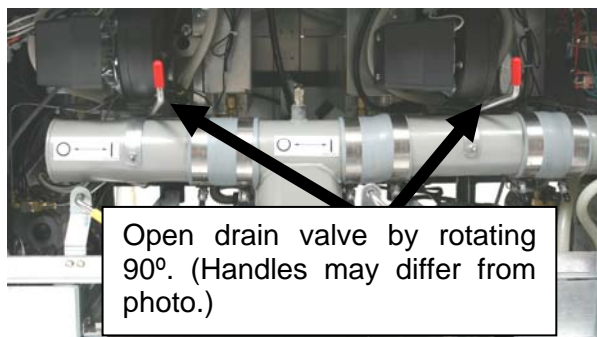

Figure 7
3. When prompted, drain the frypot into the filter pan by rotating the drain valve handle 90° (see Figure 7). If necessary, use the *Fryer's Friend* clean-out rod to clear the drain from **inside** the frypot.